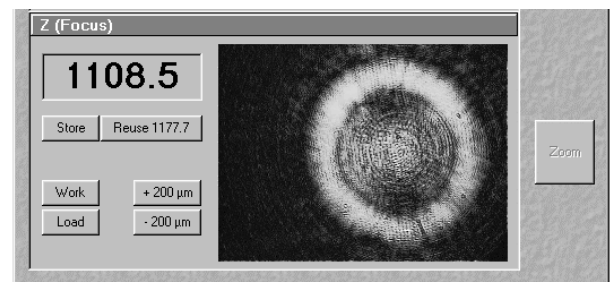

Fig. 3-17 Lower cover slip surface
- Continue cautiously moving upwards. If the camera image looks like (Fig. 3-17), you are close to the lower cover slip surface.